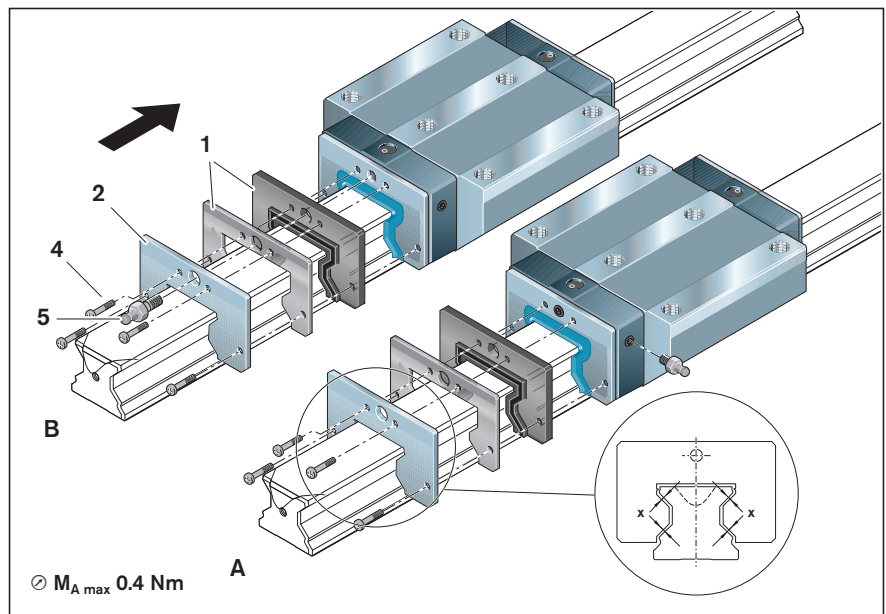

Fig. 54: Mounting the FKM seal kit with metal scraper, size 65
- Secure using the 4 screws (4) provided ➡ Fig. 54.